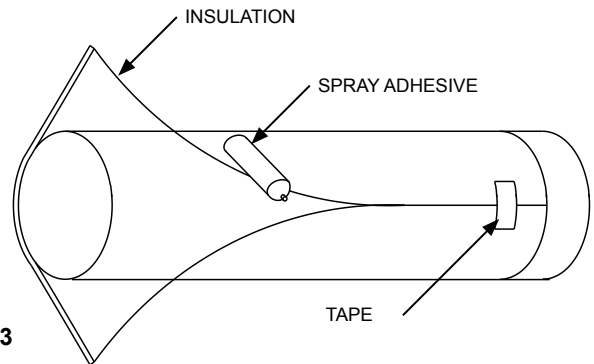

FIG. 3
Step 5: Apply spray adhesive to both the flex liner and insulation at 2 foot (0.61 m) intervals. Wrap the insulation tightly around the liner making sure to overlap the seam by about 1 inch (25 mm) as shown in FIG. 3. Secure the seam with foil tape about every 2 feet (0.61 m). Repeat process until the insulation is securely attached to the entire length of liner.